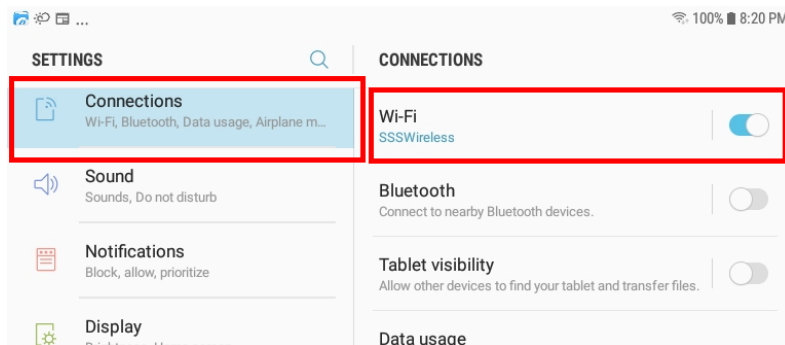

Figure 17 The Wi-Fi Connection page in the Android Settings app
- (5) Tap Connections on the left, then Wi-Fi on the right as Figure 17 (This may vary with different versions of Android).